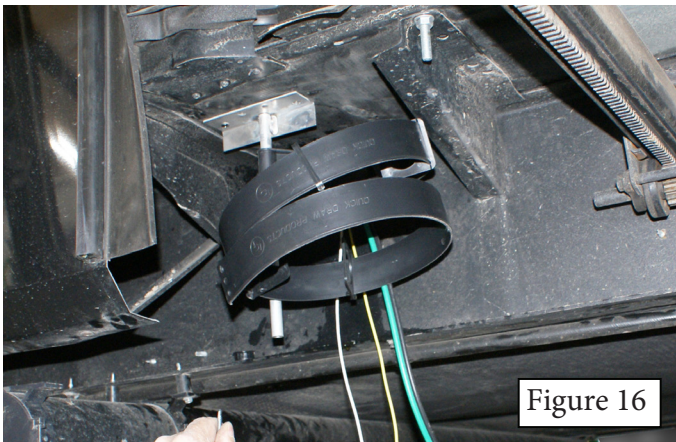

Figure 16
22. With the kitchen slide out at full extension, install the Flex Guard post just slightly forward and outboard of the wiring hole and secure with four (4) fasteners (P/N101328) (Figure 16). Be certain the Flex-Guard arm folds to the rear when room is closing.